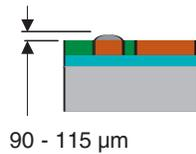

Figure 8a. Detail of Figure 8.
- Solder paste thickness after reflow process - between 90 and 115µm (see figure 8a). For solder paste, Philips Lumileds utilizes OM325 with a composition of Sn96.5Ag3.0Cu0.5.
The second sub-process is the mounting of SMD components and the dispensing of solder paste on the solder pads. The next step involves reflow soldering the SMD components and plating tin on the solder pads. The height of the solidified tin should be between 90 and 115µm for optimal hot bar reflow soldering (see figure 8a). Philips Lumileds utilizes the following solder paste: